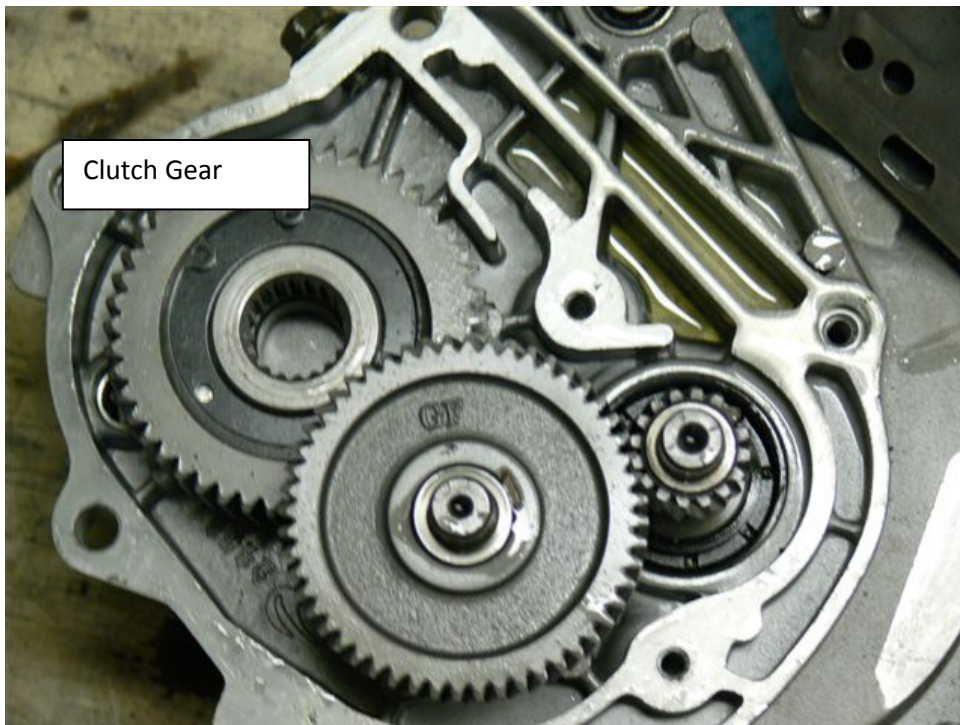

Figure 2
- 5) Remove the gear shown on Figure 2. Once the motor is split apart and facing upwards the half with the brake arm should have the clutch gear at the top end of the drive shaft.